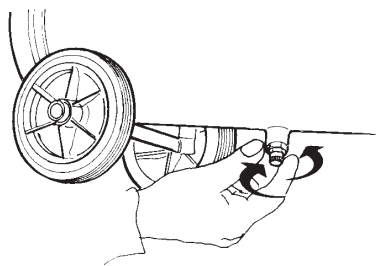

fig. 4
- check the condensation outflow tap (fig. 4);
- Remove the condensation outflow tap if pressure is in the tank (*fig. 4*).
Before carrying out any type of maintenance intervention, unplug the compressor and let the tank pressure out by opening the condensation outflow tap (*fig. 4*); unscrew the tap carefully and let the air out slowly, as metal residues might be in the tank.
Condensation outlet (*fig. 4*)